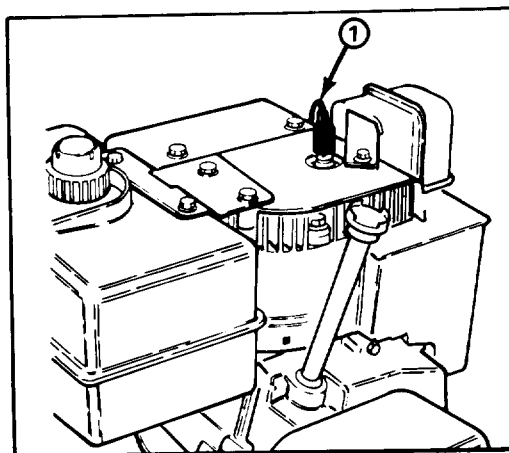

Figure 34
1. Clean area around spark plug so foreign matter cannot fall into cylinder when plug is removed (Fig. 34).